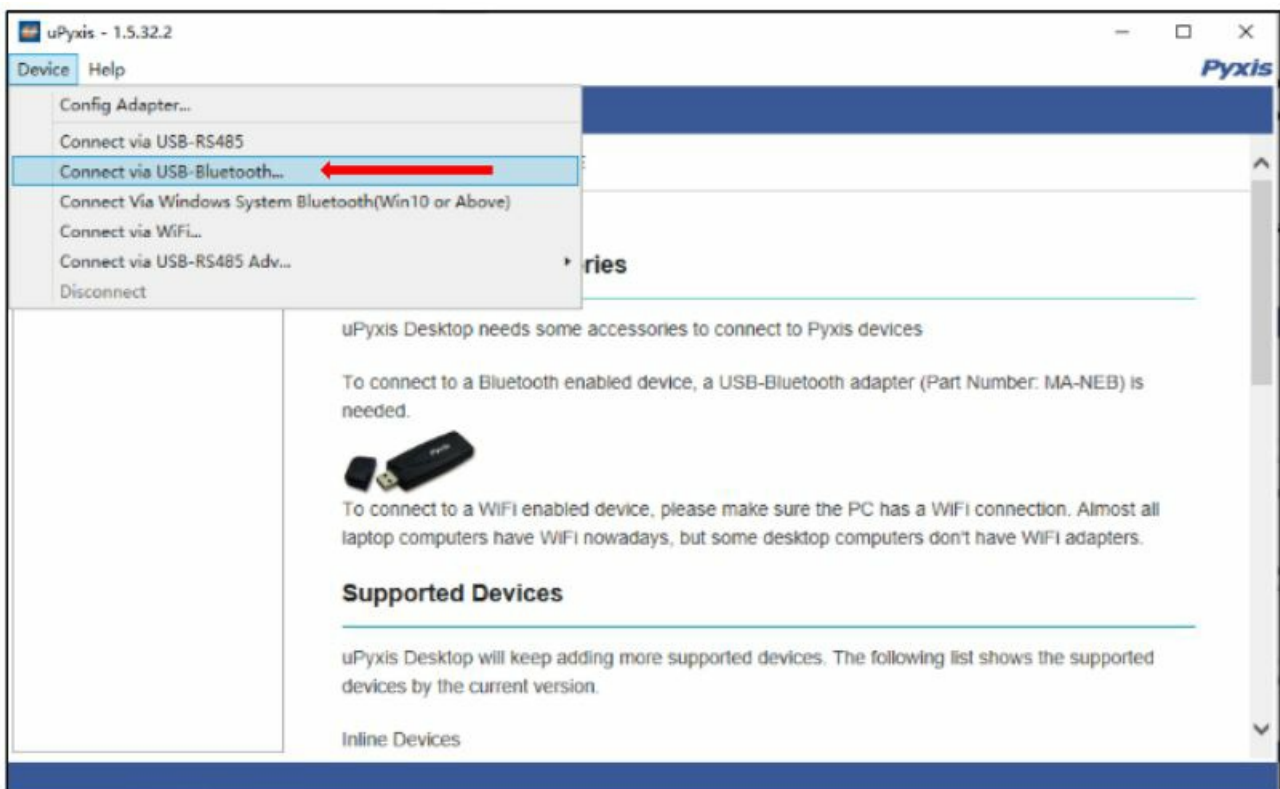
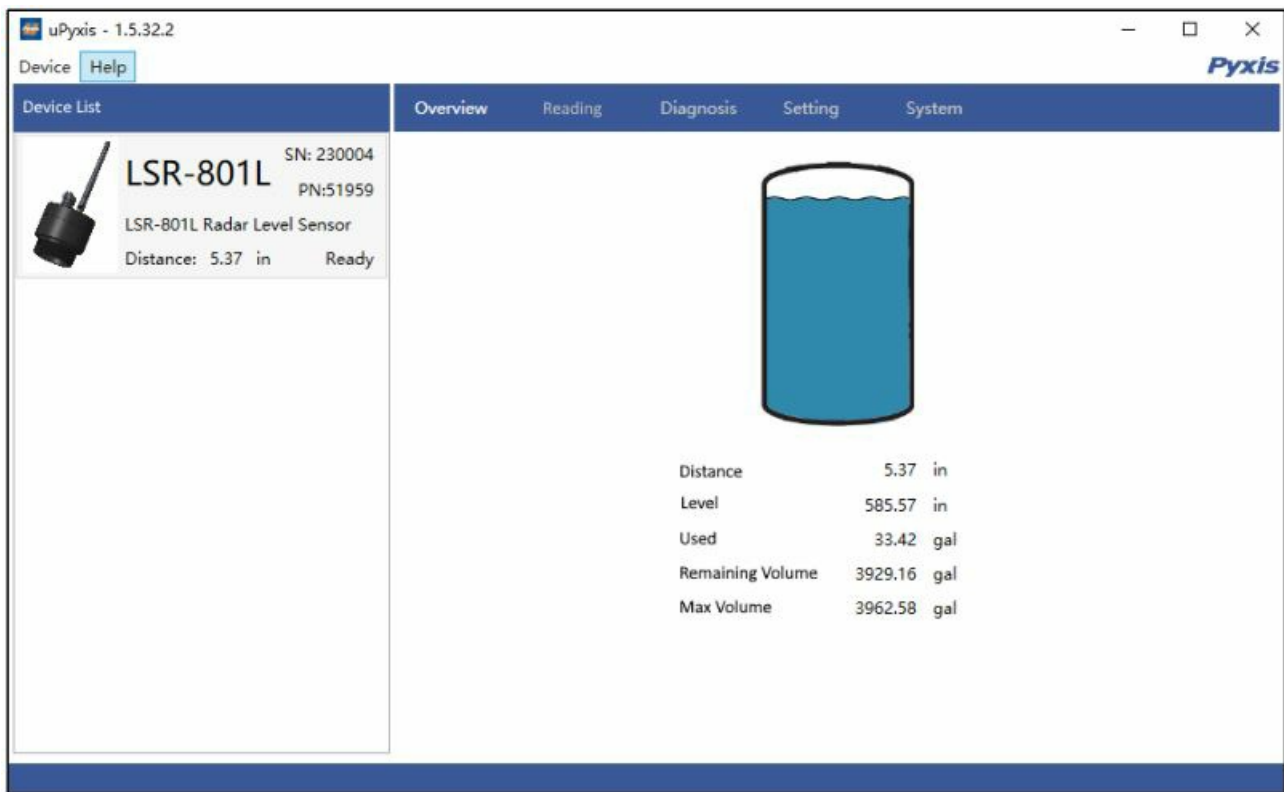

Figure 8. Connect uPyxis desktop app to LS-801 Series Radar Level Sensor
Figure 9. uPyxis Live Display After Connection to LSR-801 Series Sensor
3. On uPyxis Desktop, click menu Device -> **Connect via USB-BlueTooth 5.0@** as shown in Figure 8. If the connection is successful, the LSR-801 Series image and its Serial Number will be displayed in the left pane of the uPyxis window as shown in Figure 9.